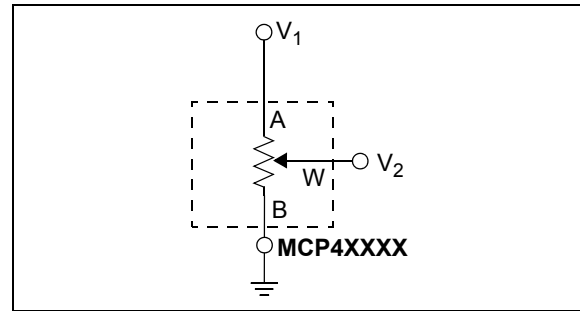
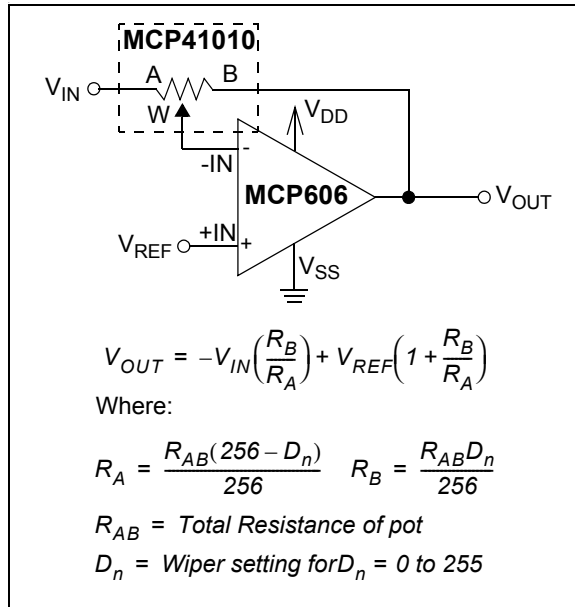
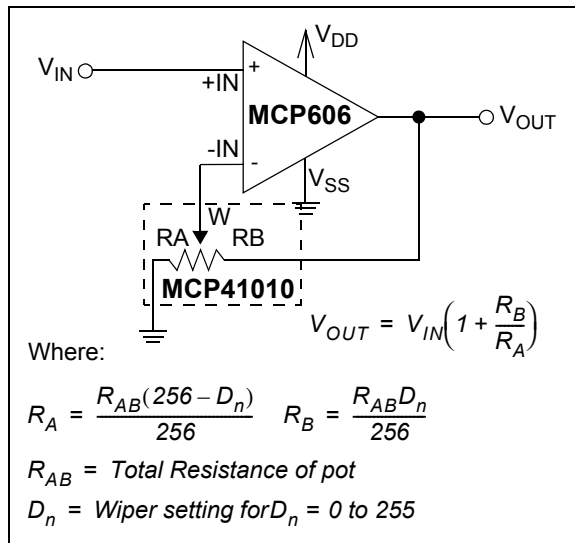

FIGURE 4-3: Three terminal or voltage divider mode.
FIGURE 4-4: Single-supply, programmable, inverting gain amplifier using a digital potentiometer.
FIGURE 4-5: Single-supply, programmable, non-inverting gain amplifier.
In the potentiometer mode, all three terminals of the device are tied to different nodes in the circuit. This allows the potentiometer to output a voltage proportional to the input voltage. This mode is sometimes called voltage divider mode. The potentiometer is used to provide a variable voltage by adjusting the wiper position between the two endpoints as shown in Figure 4-3. Note that reversing the polarity of the A and B terminals will not affect operation.
Potentiometers are often used to adjust system reference levels or gain. Programmable gain circuits using digital potentiometers can be realized in a number of different ways. An example of a single-supply, inverting gain amplifier is shown in Figure 4-4. Due to the high input impedance of the amplifier, the wiper resistance is not included in the transfer function. For a single-supply, non-inverting gain configuration, the circuit in Figure 4-5 can be used.
In order for these circuits to work properly, care must be taken in a few areas. For linear operation, the analog input and output signals must be in the range of V_{SS} to V_{DD} for the potentiometer and input and output rails of the op-amp. The circuit in Figure 4-4 requires a virtual ground or reference input to the non-inverting input of the amplifier. Refer to Application Note 682, "Using Single-Supply Operational Amplifiers in Embedded Systems" (DS00682), for more details. At power-up or reset (RS), the resistance is set to mid-scale, with R_A and R_B matching. Based on the transfer function for the circuit, the gain is -1 V/V. As the code is increased and the wiper moves towards the A terminal, the gain increases. Conversely, when the wiper is moved towards the B terminal, the gain decreases. Figure 4-6 shows this relationship. Notice the pseudo-logarithmic gain around decimal code 128. As the wiper approaches either terminal, the step size in the gain calculation increases dramatically. Due to the mismatched ratio of R_A and R_B at the extreme high and low codes, small increments in wiper position can dramatically affect the gain. As shown in Figure 4-3, recommended gains lie between 0.1 and 10 V/V.
FIGURE 4-9: Potentiometer resistances are a function of code. It should be noted that, when using these equations for most feedback amplifier circuits (see Figure 4-4 and Figure 4-5), the wiper resistance can be omitted due to the high impedance input of the amplifier.